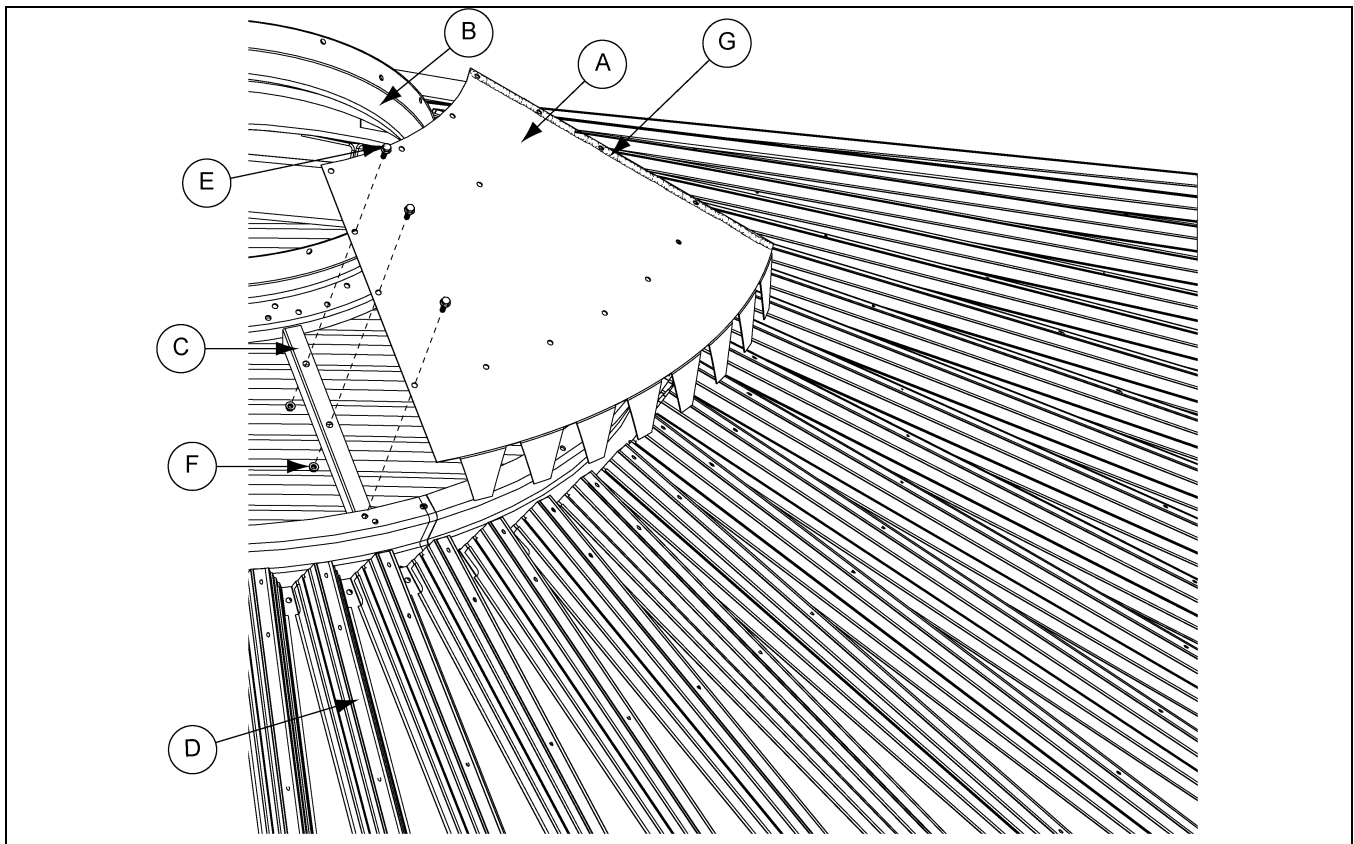

Figure 8Q Installation of First Roof Flashing Section
1. Install the first roof flashing section (A) onto the center collar (B) and align the holes in the roof flashing section (A) with roof flashing angle holes (C) as shown in Figure 8Q.
2. Install flange bolts (E) and flange nuts (F), securing the first roof flashing section (A) to the roof flashing angle (C).
3. Field drill holes on the center collar (B) through the roof flashing section (A). Fasten the roof flashing section (A) and centre collar (B) securely using flange bolts (E) and flange nuts (F).